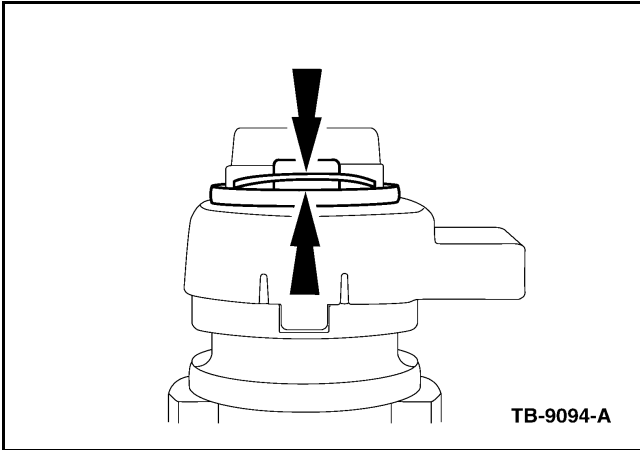

Figure 3 - Article 08-9-2
- c. E-clip must be positioned with the concave side towards the lock cylinder (upside down U) to ensure the proper tension is applied toward connection. (Figure 3)